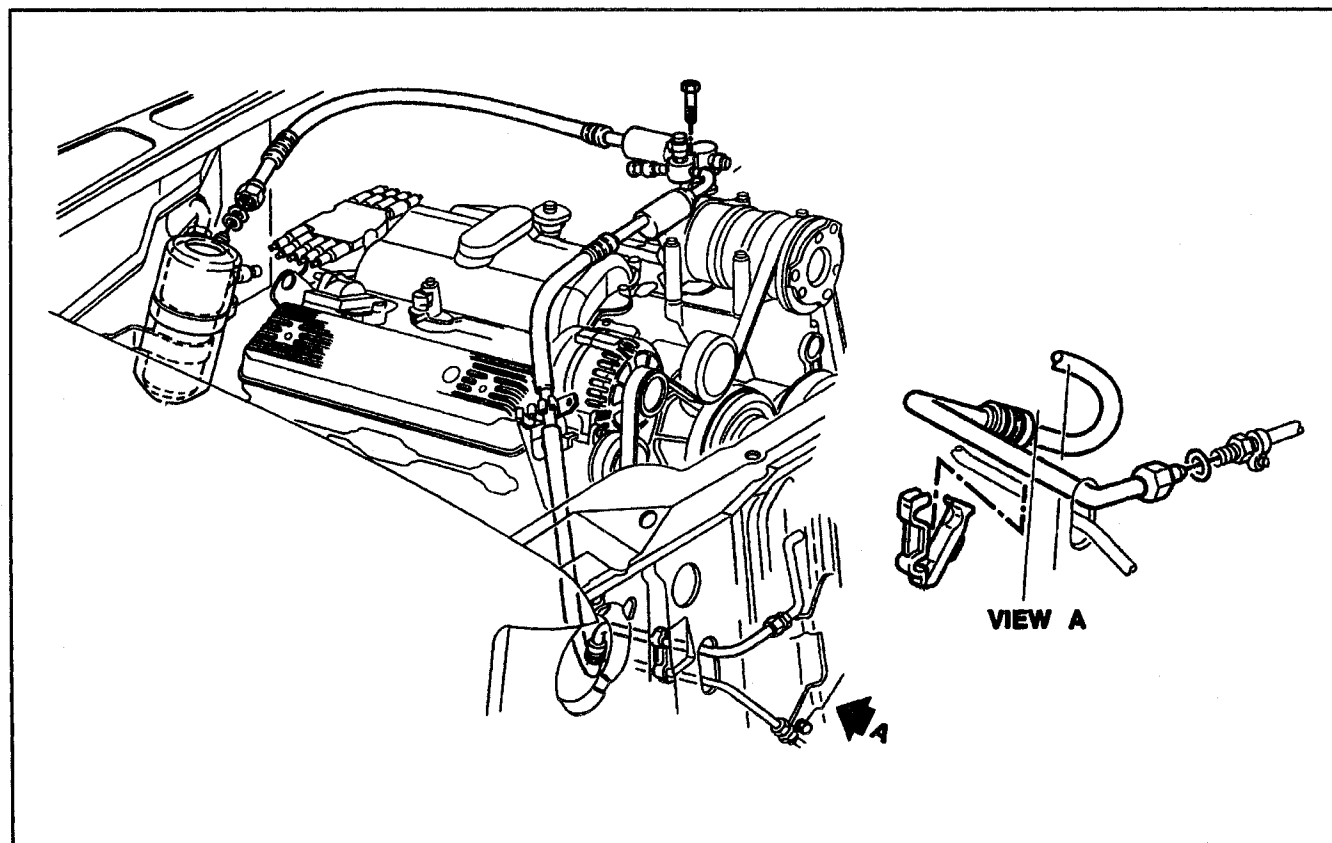

Figure 31—Compressor and Condenser Hose Assembly
- Suburban/Utility and Crew Cab Models (5.7L Engines w/o Aux. A/C), Figure 31.